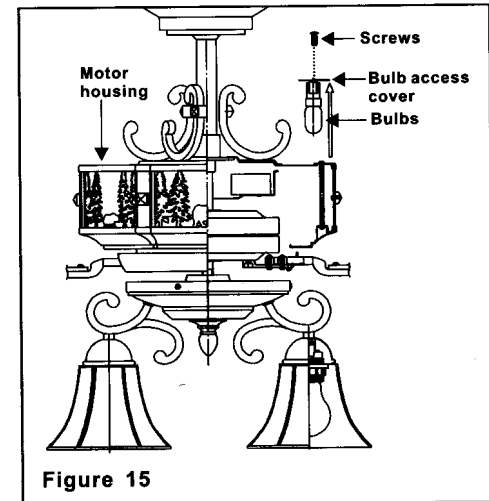

Figure 15
Step 1. Remove the 2 screws from the lamp holder stand and take the stand off from the top decorative housing as shown in Figure 15.